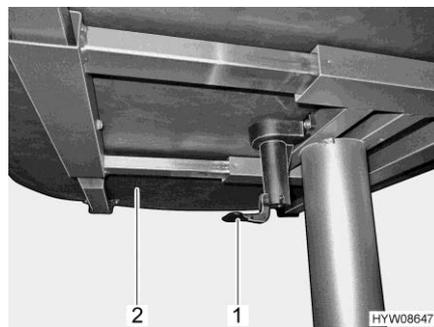

Fig. 84 Lever for moving the table top
- Pull or press down the lever (Fig. 84,1).
- Move the table top (Fig. 84,2) to the desired position.